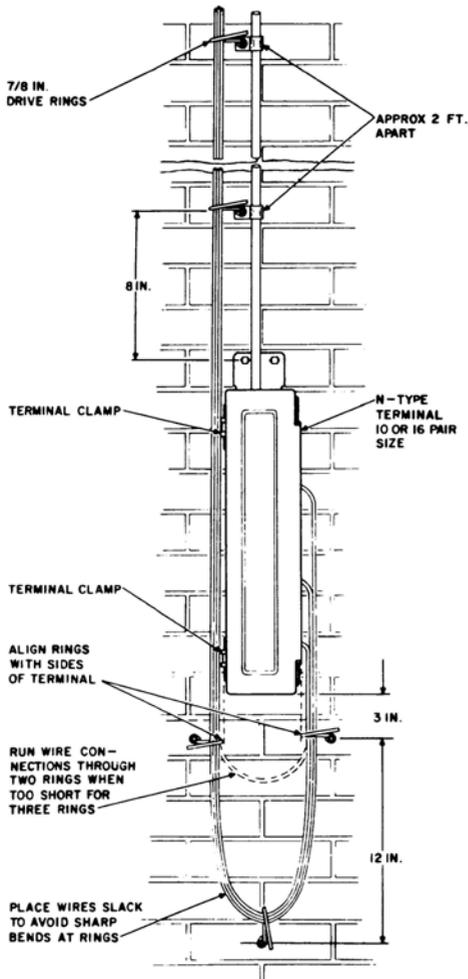

Fig. 19—Wall-Mounted 10- or 16-Pair Cable Terminal With Stub at Top
5.01 The wiring arrangements at wall-mounted terminals is very much like the arrangements at strand- and pole-mounted terminals, and should always be done in a neat and orderly fashion. Refer to Fig. 19 through 26 for arranging drop and block wires at wall-mounted terminals.